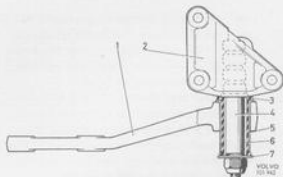
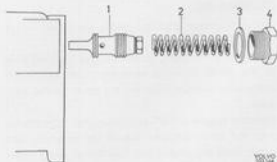

Fig. 6-67. Relay arm jousting
Fig. 6-70. Removing control valve
3. Remove the three attaching bolts for the bracket (2, Fig. 6-67) and lift out the unit.
3. Remove the nut and washer (7, Fig. 6-67) and take down the relay arm (1).
- b) Remove the pump control valve, see Fig. 6-70. Observe the utmost cleanliness. Wash and blow clean before screwing out the plug (4, Fig. 6-67), which should be done from underneath. Check the valve piston and drill-